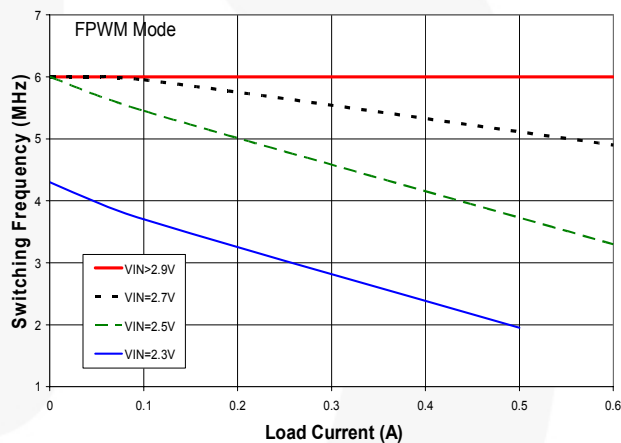
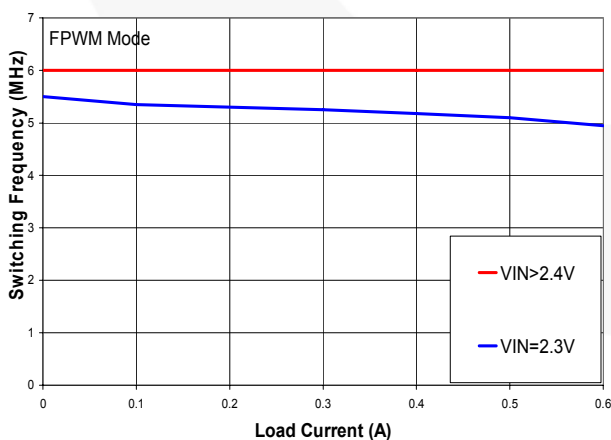

Figure 14. Effect of $t_{OFF(MIN)}$ on reducing the Switching Frequency
Figure 15. 1.233V_{OUT} Effect of $t_{OFF(MIN)}$ on reducing the Switching Frequency
- Limited by the effect of t_{OFF} minimum (see Figure 14 and Figure 15 in Typical Performance Characteristics).
The switching frequency drops when the regulator cannot provide sufficient duty cycle at 6MHz to maintain regulation. This occurs when V_{OUT} is 1.82V and V_{IN} is below 2.9V at high load currents (see Figure 15).